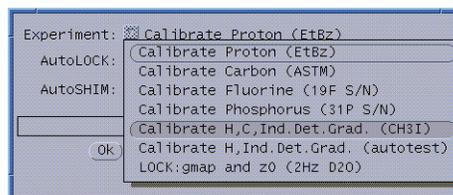

Figure 65. Setup EXP - Changing Calibration Samples
2. **Eject** the current sample from the magnet and **insert** the ¹³C enriched CH₃I sample. Click on the **Eject** and **Insert** buttons (Figure 65) in the sample management region of the **Setup EXP window** or, **from the command line**, use the **e** command to eject the sample and the **i** command to insert a new sample.
3. Select the solvent by holding down the left mouse button on the solvent menu (Figure 65) and choosing the appropriate solvent from the solvent menu list.